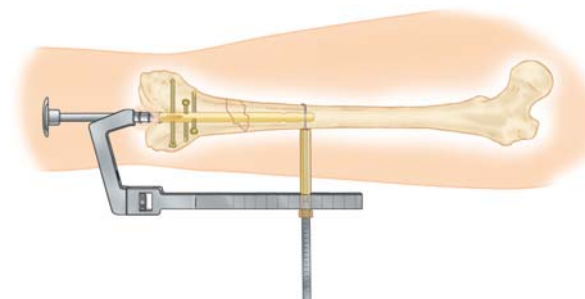

Figure 36
B. Screw Length Gauge Technique — After predrilling through both cortices as outlined above, remove the Silver Inner Drill Sleeve. Insert the Screw Length Gauge (7163-1170) through the remaining Gold Drill Sleeve (7163-1152) to measure for proper screw from the far cortex (*Figure 36*). An alternative option in measuring for screw length is the Direct Measuring Gauge (7163-1189) used without the drill sleeve. The appropriate length 5.0 mm screw (GOLD) is selected and attached to the Screwdriver. Attach Screwdriver to power or use manual T-handle (7163-1172) or Straight Screwdriver Handle (7163-1163) and place screws in bone. The Screwdriver contains a laser-marked ring. This ring should be stopped short of the Gold Outer Drill Sleeve to prevent